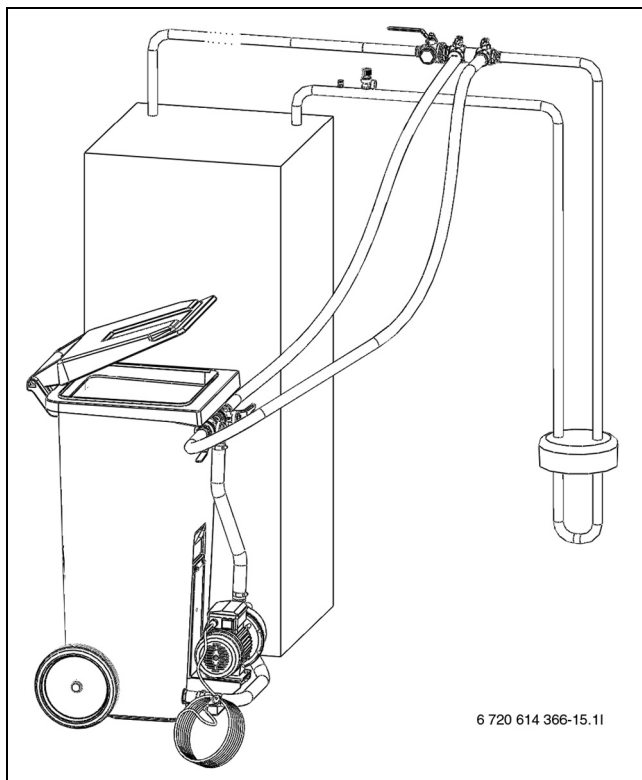

Fig. 26 Filling with filling station
- ▶ Connect two hoses from the filling station to the filling unit (→ Figure 26).